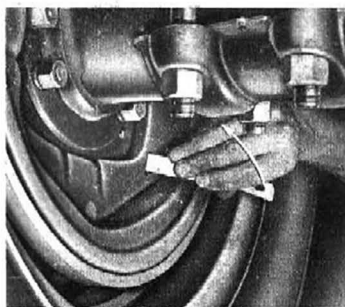

Fig. 52—Adjusting "Twinplex" Brakes
2. Using a suitable tool (fig. 52), turn rear adjusting screw until a light dragging contact is felt on the brake drum and then back off 3 notches. Turn front adjusting screw until a light dragging contact is felt on the brake drum and back off 3 notches. Install adjusting hole covers.